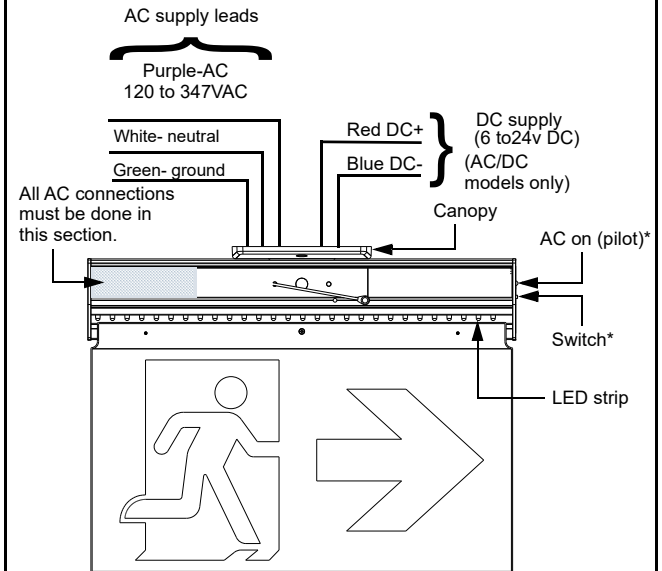

Figure 3
- a. Attach the AC supply leads to the extension wires supplied (follow the electrical wiring in Figure 3).
- c. Feed the supplied wires through the center hole of the canopy and attach the canopy to the spider plate using the screws provided (5).
- d. Use a screwdriver to push the knock out towards the inside of the housing. Feed the supplied wires through the center hole and mount the housing to the canopy with the screws provided (7).
- Fasten the canopy to the housing using screws (7) and lock nuts provided (12).
- Attach the AC supply leads to the extension wires supplied (follow the electrical wiring in Figure 3).
- Fasten the spider plate to the junction box using the junction box screws (3).
- Fasten the canopy/housing assembly to the spider plate using the screws provided (5).
- Electrical connections (see Figure 3):